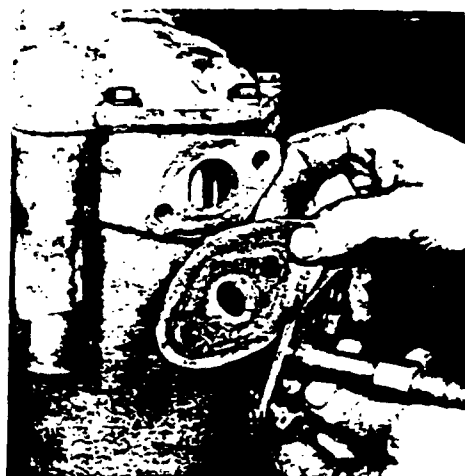

Figure 2-306. Installing Oil Inlet Plate
1. Install a steel plate with a rubber gasket and an air line fitting on the oil inlet opening. See Figure 2-306.